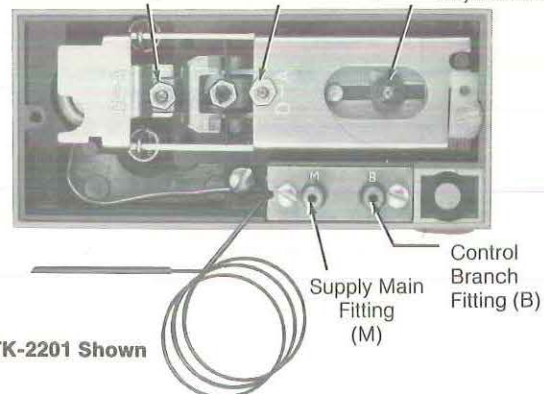

Figure 4.
Attach 1/4" O.D. plastic tube to "M" (main) and "B" (branch) fittings by slightly rotating the tubes back and forth and pushing firmly onto the fitting (see Figure 4.)
1. Remove direct acting calibration screw complete with tension nut (Figure 4).
2. Insert screw into threaded hole where reverse acting screw is shown in Figure 4.
The throttling range is changed by sliding the throttling range adjustment pivot in the flapper to its proper position (see Figure 4). Calibration of the thermostat should be checked after the throttling range has been changed. When making the throttling range adjustment, care should be taken to prevent excessive side forces on the flapper lever (see Figure 6).